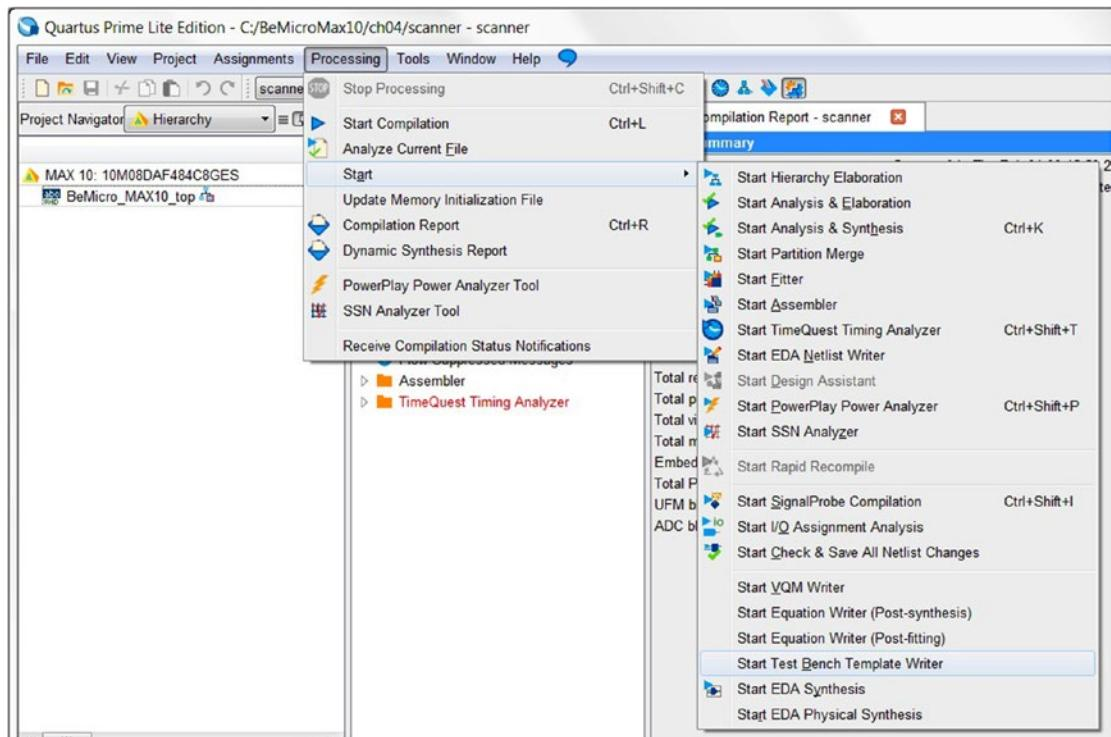
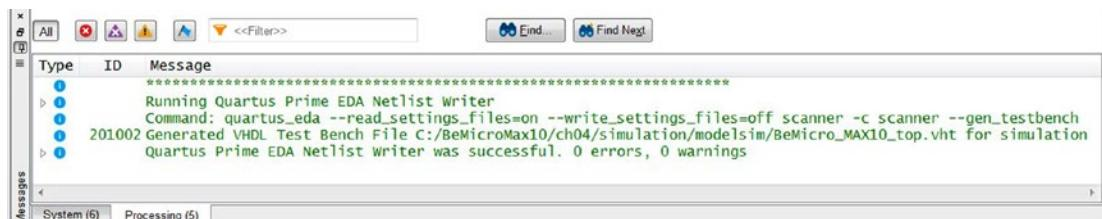

Figure 4-31. Quartus Prime Test Bench template writer
Figure 4-32. Generated test bench template and the location of the file show in Processing Message tab
2. Create the test bench template: Click **Processing > Start > Start Test Bench Template Writer** from the Quartus Prime menu (Figure 4-31). The test bench template writer is based on your top-level entity module and uses information from that file to generate a test bench for it. It will show the location of the test bench file in the processing message tab (Figure 4-32).